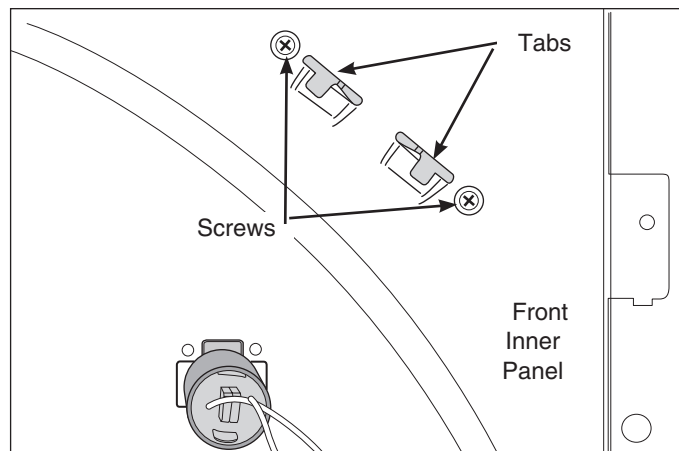

Figure 4-21.
3. From both ends of the bracket, use a #2 square bit screwdriver and extract the four screws securing the bracket to the inner front and rear panels. (See Figure 4-21)